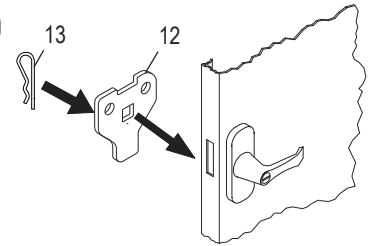
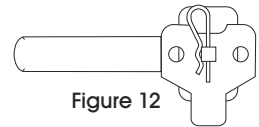

Figure 11
Figure 12
- Turn the handle to the open position, and place the locking cam (12) over the square shank of the door handle. The cam must be facing down as shown. (See Figure 11) Then place the locking cotter pin (13) through the hole of the square shank. (See Figure 12)